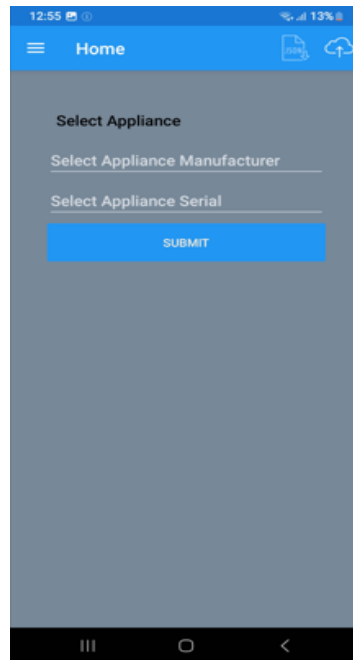

Figure 28 Mobile Application Home screen
- The home screen of the mobile application is shown in figure 28, click on the connect button to download the data from the data logger.